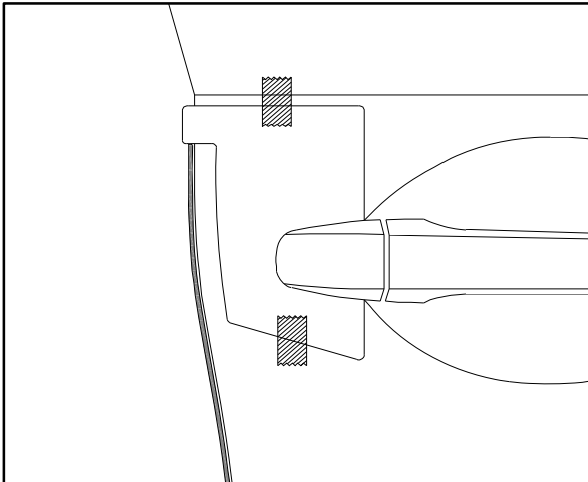

Fig. 1-13
- (m) Align top edge of DEG (labeled Front Passenger with Blue sticker) with lower edge of template alignment notch as shown. (Fig 1-13)